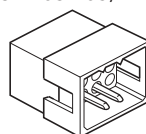

Fig. 3-1
1. Remove the connector with jumper from the external speaker connector on the rear panel of the radio (Fig. 3-1).